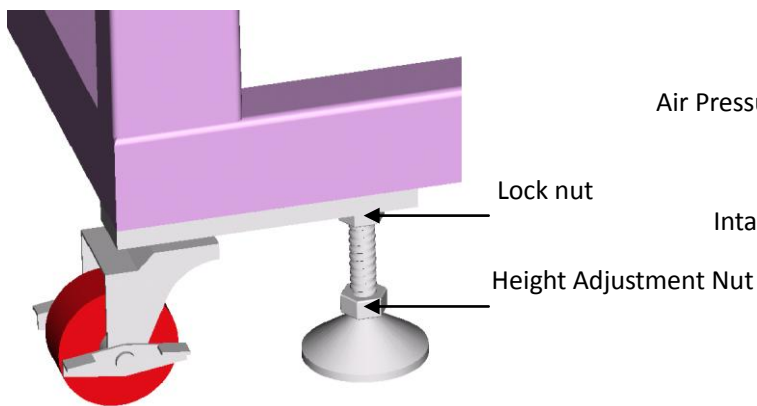

Figure 4.1
- (1) After the installation site is selected, move the machine to the intended location to match the production line.
- (2) mechanical height adjustment: use the wrench to loosen the lock nut under the rack, and then adjust the height adjustment nut, until the required mechanical height is reached, and finally tighten the lock nut. (Figure 4.1)